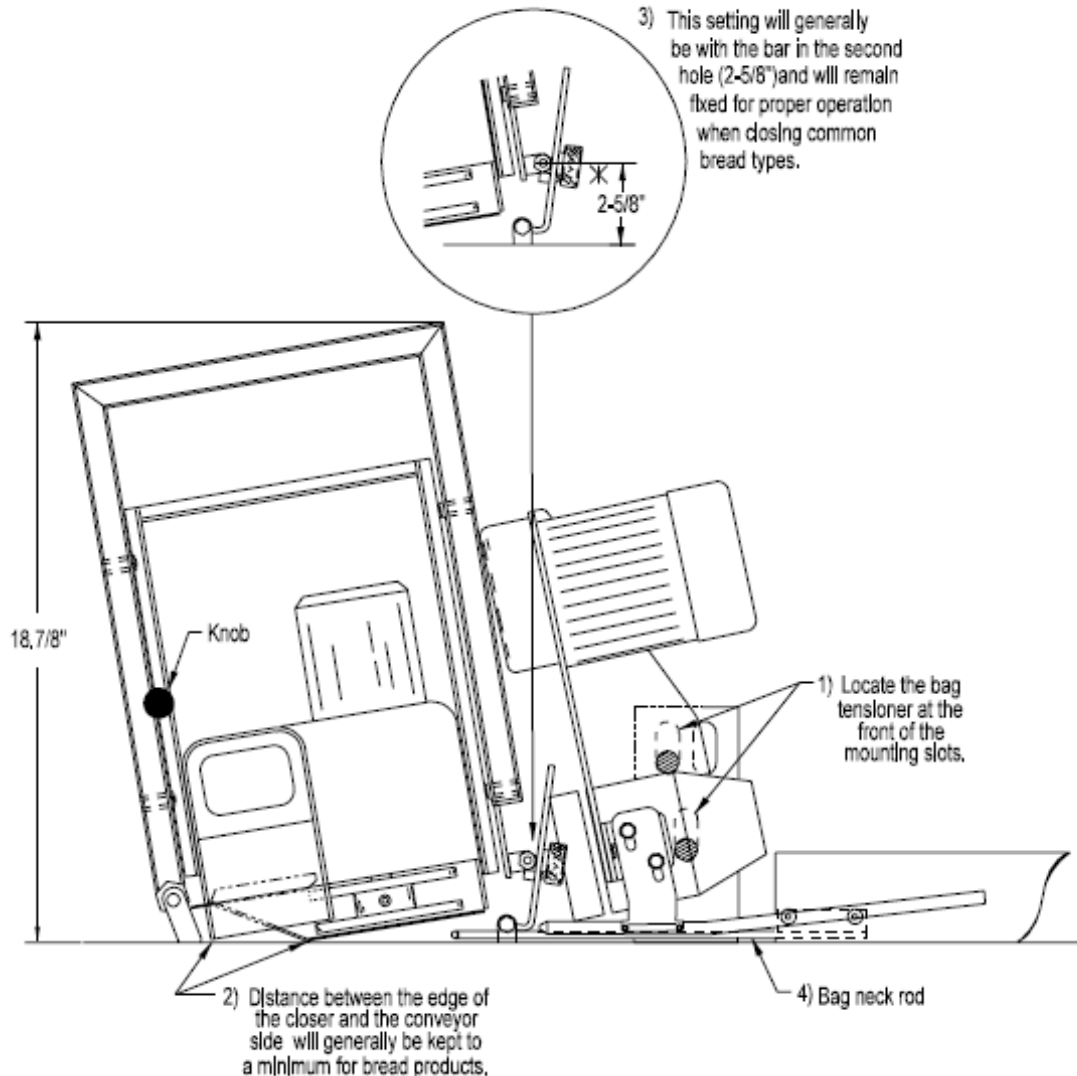

Figure 2.6
F. Setting for the Slide Frame Mount (Figure 2.6)
1. The bag tensioner must be located toward the rear of the mounting slots as shown (1).
2. The distance between the closer frame and the conveyor is adjustable, but generally kept to a minimum. This is done by adjusting the closer mount, using the adjustment knob at the side of the closer frame (2).
4. Set the distance between the upper fence and the conveyor side, or in line with the lower fence rod (4).